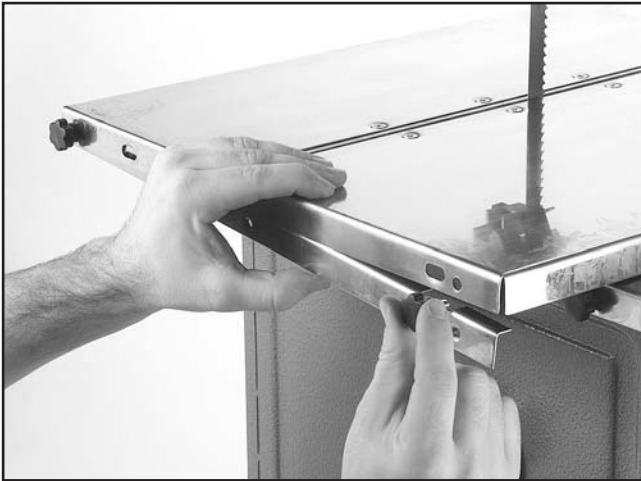

Figure 22. Installing force plate.
3. Secure the force plate under the open edge of the table with the M6-1 x 12 knob screws as shown in **Figure 22**.